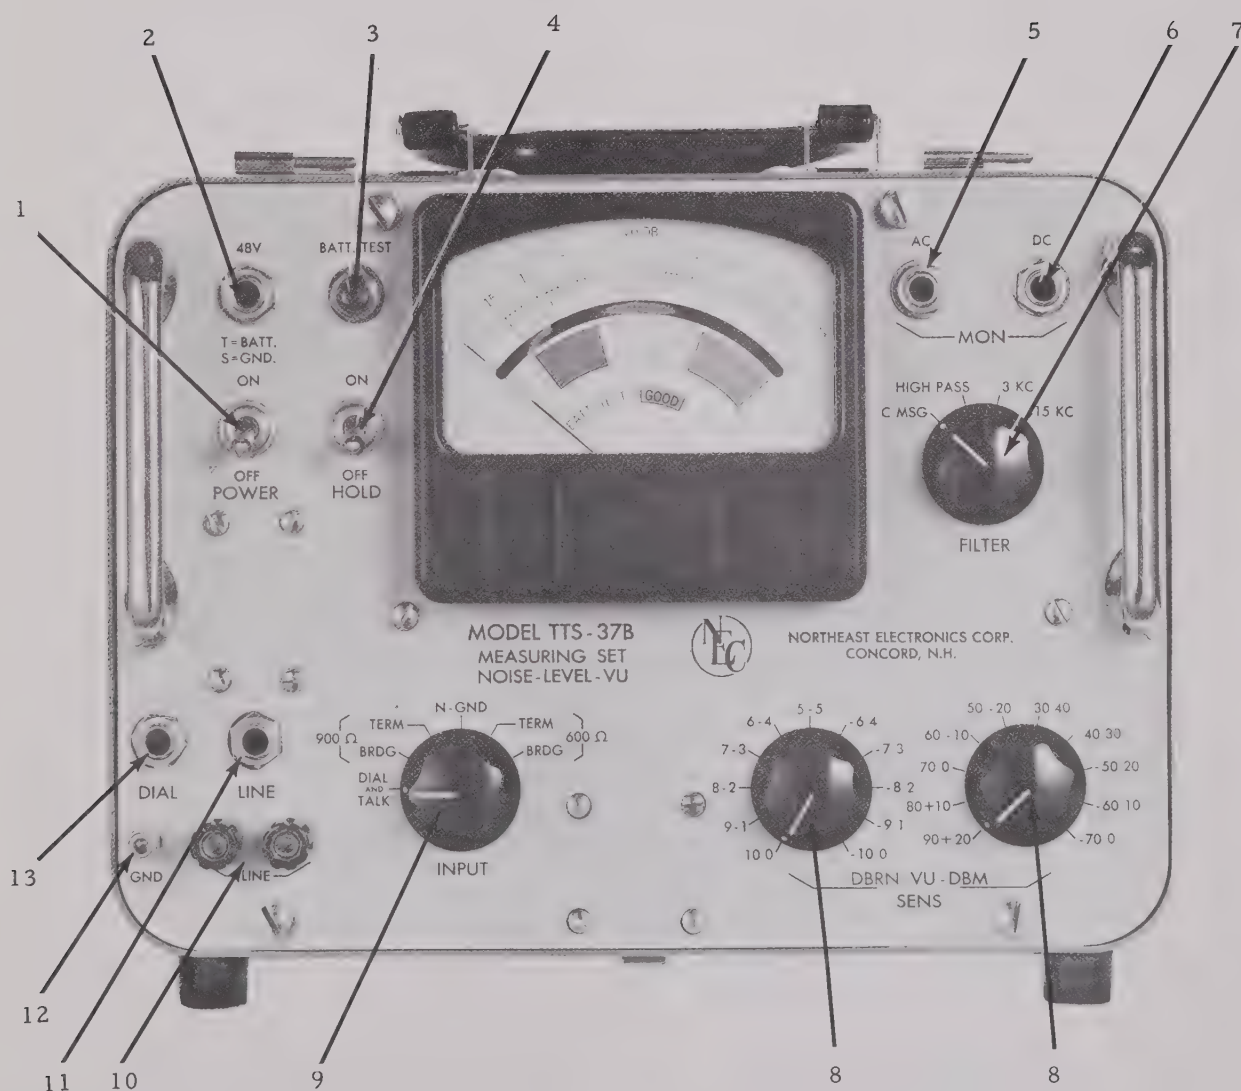

Fig. 3-1 Front Panel Controls
3.1 FRONT PANEL CONTROLS. Table 3-1 and Fig. 3-1 describe and locate the front panel controls on the TTS 37B.